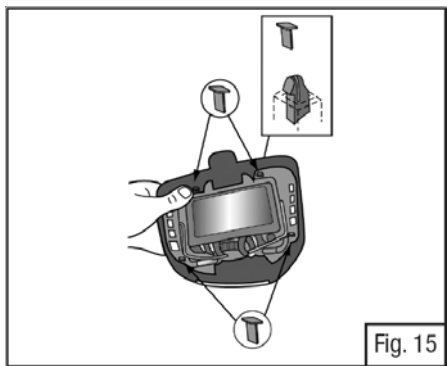
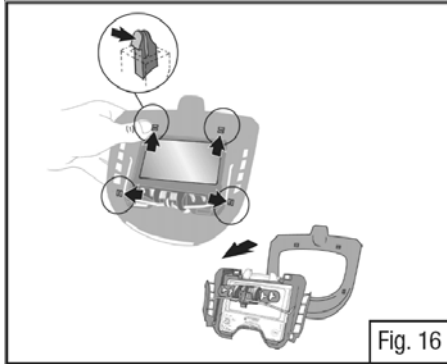

Fig. 15
Fig. 16
- To remove the FlexView welding ADF holder, remove the rubber locking wedges from the inside of the four retention tabs (Fig 15). Squeeze the two top and the two side tabs together (Fig 16). The ADF holder can then be separated from the FlexView silver front panel.